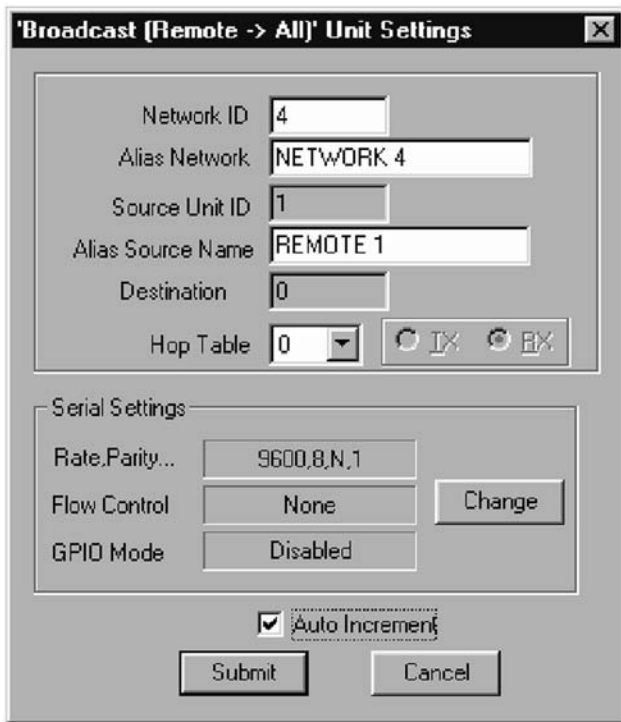

Fig. 7 — Transceiver 2 Configuration
- i. Insert the RS-232 connector into the serial connector in the back of the transceiver. See Fig. 7.